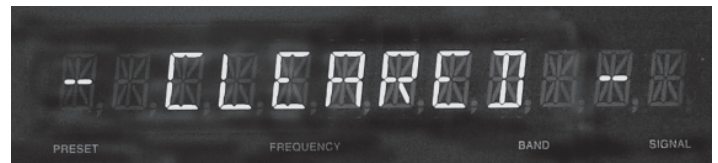

Figure 6
3. Press and Hold the ENTER Push-button for approximately 3 seconds until the Front Panel Display indicates the word CLEARED. Refer to figure 6.